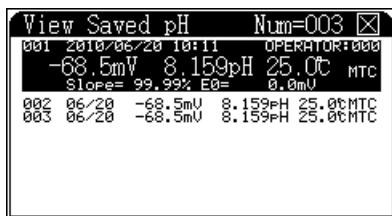

Figure 35 Viewing saved pH data
- 2 Navigate to **View Saved pH** as shown in Figure 35. The upper area displays the current viewing mode and actual stored amount.